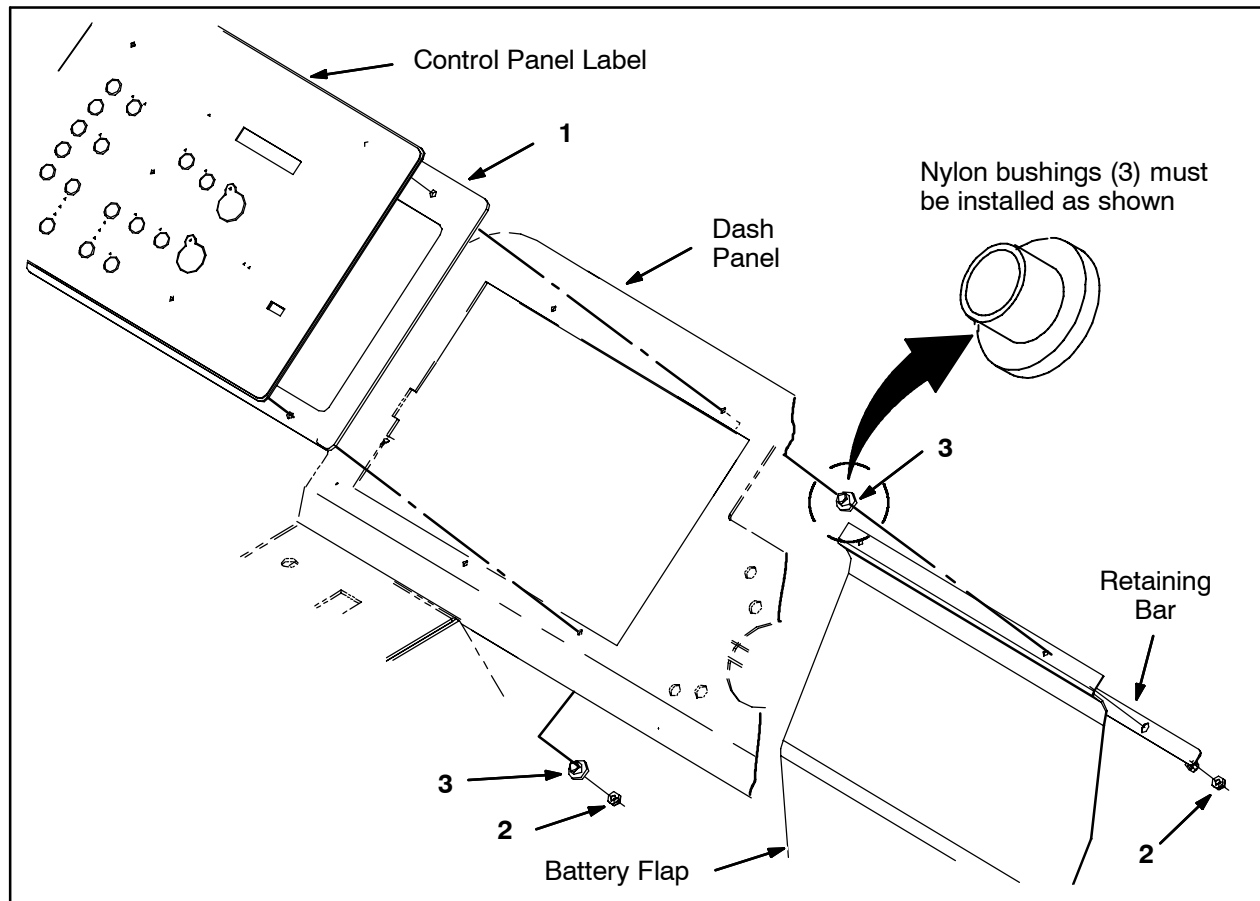

FIG. 2
4. Remove the two hex nuts holding the battery flap and retaining bar to the back of the dash panel. Set the battery flap and retaining bar aside. Mounting hardware has changed, discard existing hex nuts. Refer to Fig. 2.
5. Remove the two hex nuts holding the bottom of the control panel to the back of the dash panel. Mounting hardware has changed, discard existing hex nuts. Refer to Fig. 2.
6. Remove the control panel from the dash panel. Send the control panel back to Tennant Warranty Department. Refer to Fig. 2.
1. Use four hex nuts (2) and four nylon bushings (3) to install the new control panel (1), battery cover, and retaining bar onto the dash panel. Refer to Fig. 2.
*NOTE: The nylon bushings (3) **must be installed** as shown in Fig. 2 to prevent static electricity from damaging the control panel (1).*
2. Reconnect the main wire harness to the control panel (1).